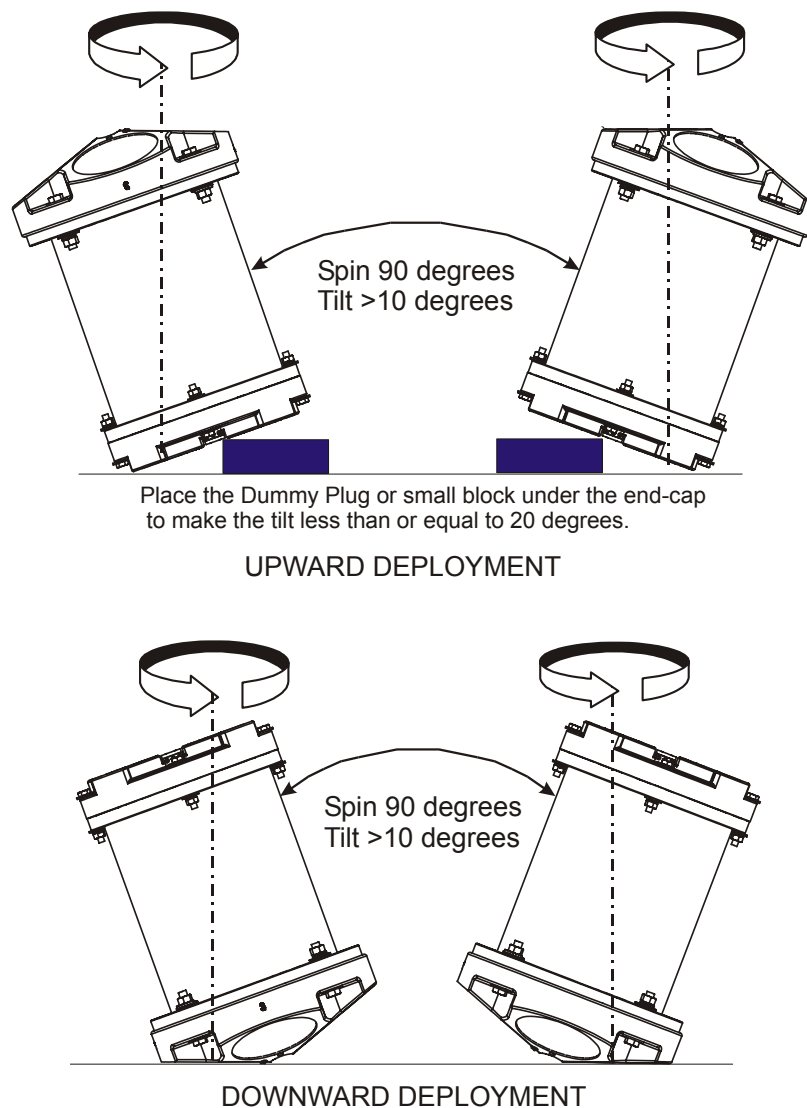

Figure 23. Compass Calibration
- e. Tilt the ADCP (see Figure 23, page 61). Tilt an upward-looking Workhorse with a block under one side of the end-cap. A 35-mm block will give you an 11-degree tilt. Check the on-screen instructions to see if the orientation is OK. Adjust as necessary.
- g. The second rotation requires the ADCP to be tilted 15 degrees in another direction than from the first rotation (see Figure 23, page 61). Follow the on-screen instructions to orient the ADCP correctly. When prompted, rotate the ADCP slowly 360 degrees (approximately 5 degrees per second).